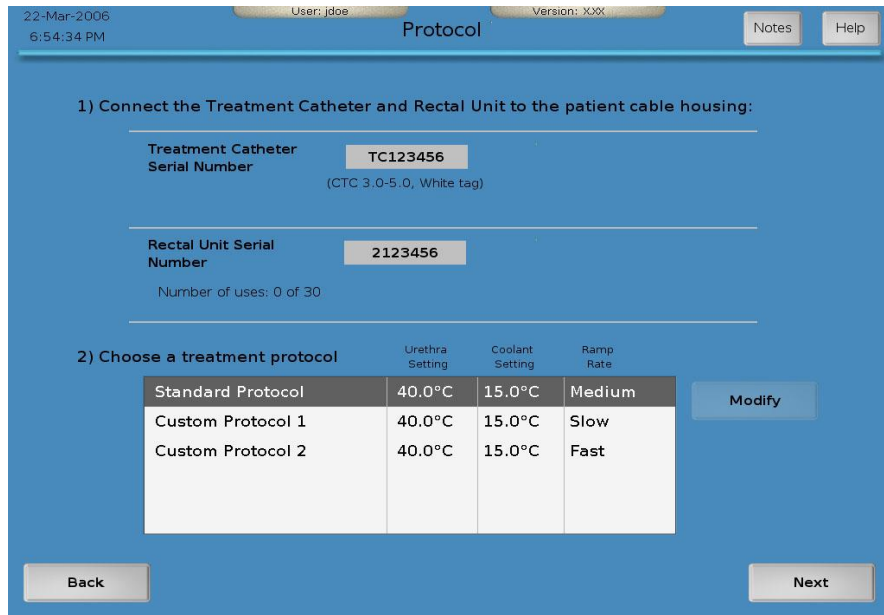

Figure 3-16. Example of a Protocol screen
Note: The RTU Plus Reusable Handle should not be used in excess of 30 times. The control unit will display the number of times the RTU Plus Reusable Handle has been used on the Protocol screen (Figure 3-16).
- 5 2. Verify that the CoolWave Control Unit automatically inserted the microwave catheter and rectal unit serial numbers in the appropriate data fields in step 1 on the Protocol screen (Figure 3-16).
4. Select the desired treatment protocol, in step 2 on the Protocol screen, for your patient, and then press the treatment protocol name (Figure 3-16). Protocols can vary depending on the microwave catheter in use and user preference. The description next to each protocol defines first the urethra temperature, second the coolant temperature, and third the ramp rate; all treatment times default to 28 minutes and 30 seconds, though that time can be modified from the standard mode or advanced mode CoolWave Control Panel on the Urologix - BPH Treatment screen. In addition, a custom protocol is user defined and can be modified. To modify a custom protocol, proceed to step 5. Otherwise, proceed to step 8 to continue with the treatment.